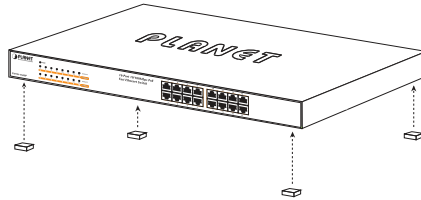

Figure 3-1: Attaching the Rubber Feet to the 802.3at PoE+ Switch
Step1: Attach the rubber feet to the recessed areas on the bottom of the 802.3at PoE+ Ethernet Switch, as shown in Figure 3-1.